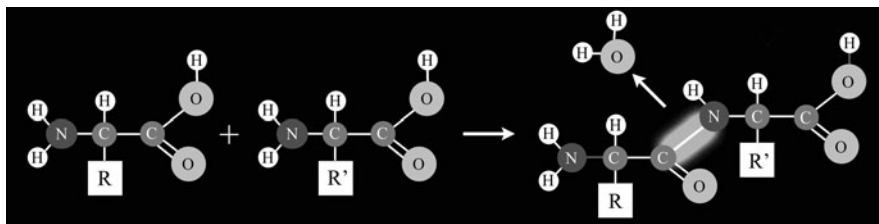

Fig. 6.3. General chemical structure of an amino acid, and formation of the peptide bond.
When dealing with polymers, we have seen that it is often useful to make macromolecules using more than one kind of monomer. Copolymers greatly broaden the range of applications, particularly when they have an amphiphilic nature. In this matter, Nature really goes the extra mile, for proteins are copolymers made not of two or three, but of *twenty* different monomers, the **amino acids**. In fact, as you can see in Fig. 6.3, all amino acids have a similar chemical structure; three of the four bonds of a central carbon atom are always made up in the same way, with one bond to a hydrogen atom and two, on opposite sides, to groups called the *carboxylic* (COOH) and *amino* (NH₂) terminals. However, it is the fourth group, called the *residue* and indicated by R, which makes the difference. Residues can range from a single hydrogen atom such as in glycine, the simplest amino acid, to rather complex organic groups like that in tryptophane.
Protein folding is infinitely more complex than the coiling of a simple polymer chain. However, billion years of evolution have selected a very general assembly line, which in some sense resembles the method we use to make a prefab, where we start not from single bricks but from fixed pre-assembled elements. To understand these basic elements, which make up what is called the *secondary structure* of a protein, we must take into account another crucial aspect concerning, rather than the residues, the “skeleton” of the polypeptide chain. When the peptide bond forms, the terminals, which are by themselves strongly hydrophilic, lose the inclination to ionize. Yet, looking at Fig. 6.3, we see how a single hydrogen remains attached to the nitrogen (N) atoms, whereas what is left of the carboxylic group is just an isolated oxygen (O) atom. Talking about water, we have seen that oxygen, because of its polar nature, likes to bind (if rather weakly) to the hydrogens of other molecules, giving rise to that “sharing” game that is responsible for all the special features of water. Thus, oxygens are really thirsty for hydrogen. On the other hand, nitrogen atoms are very generous, agreeing with good grace to share their little treasure with an oxygen atom through a hydrogen bond. From Fig. 6.3 it is easy to grasp that this is not possible with the closest oxygen, for it points to the other side; but it is feasible with oxygens belonging to *other* amino acids. Hence, bonds can form between different parts of the chain, making the chain much more compact than for a simple polymer.